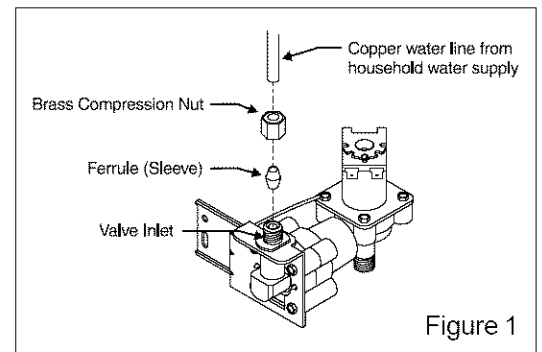

Figure 1
- A water supply line made of 1/4 inch (6.4 mm) OD, copper tubing. To determine the length of copper tubing needed, you will need to measure the distance from the ice maker inlet valve at the back of the refrigerator to your cold water pipe. Then add approximately 7 feet (2.1 meters), so the refrigerator can be moved out for cleaning. See Figure 1.
6. With steel clamp and screw, secure water supply line to rear panel of refrigerator at location shown in Figure 1.
7. Coil excess water supply line (about 2 1/2 turns) behind refrigerator as shown in Figure 1 and arrange coils so they do not vibrate or wear against any other surface.